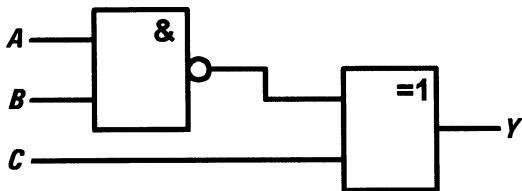

Figure A2.21
44. Redraw Fig. A2.21 using American (MIL/ANSI) symbols. [Page 164]